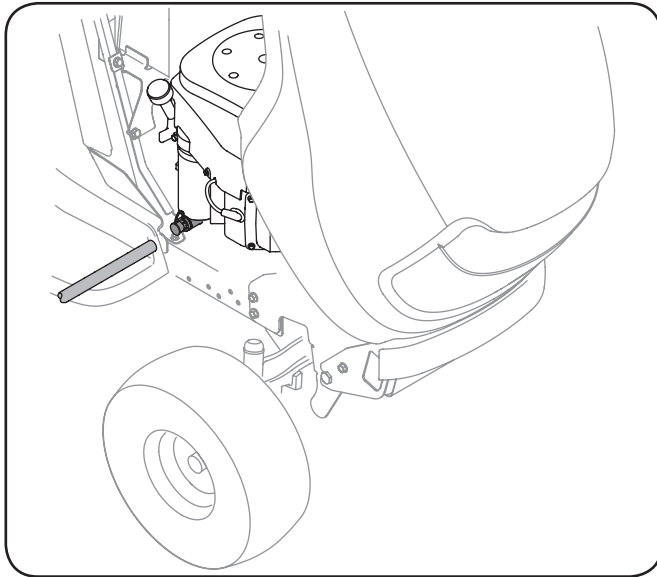

Figure 6-1
- Pop open the protective cap on the end of the oil drain valve to expose the drain port. See Figure 6-1.